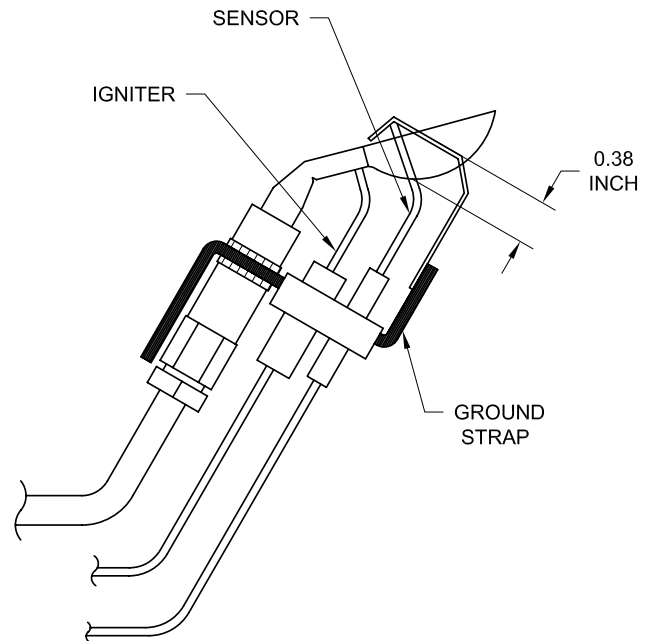

Figure 16: Pilot Burner Flame
1. See Figure 16. The pilot burner should be lit only if thermostat is calling for heat. The pilot burner produces three (3) flames. The center flame should be steady, medium hard blue enveloping 3/8 to 1/2 inch of sensing probe.